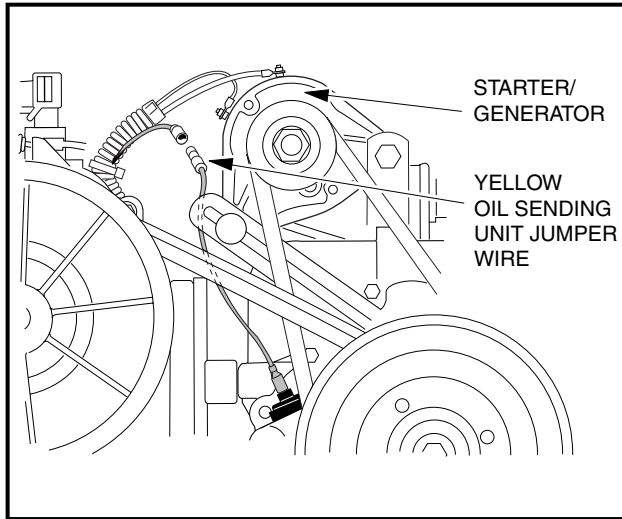

Figure 16-50 Oil Level Sensor Jumper Wire
24. Connect the oil level sensor wire (18-gauge yellow) to the jumper wire (**Figure 16-50, Page 16-21**).